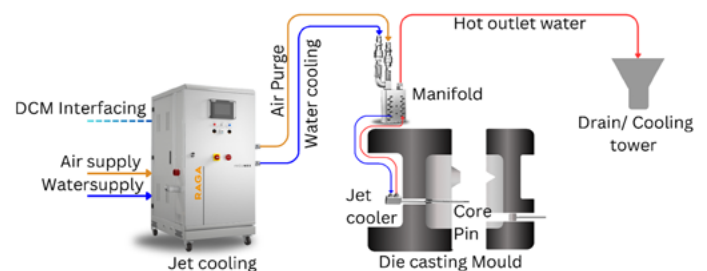

Fig8: Jet cooling machine and its connection layout.
- **Closed-loop Cooling:** Seasonal changes affect cooling tower water temperature, with hotter temperatures in summer and colder temperatures in winter. This variability impacts Mould heat transfer, resulting in lower heat transfer in summer and higher in winter, affecting casting quality. In-mould cooling also consumes significant amounts of water. Utilize a water temperature and TDS control unit to maintain consistent thermal balance despite external temperature variations. This practice can save significant costs annually. In Fig8, closed-loop cooling is depicted, employing RAGA AquaControl to regulate water temperature and quality